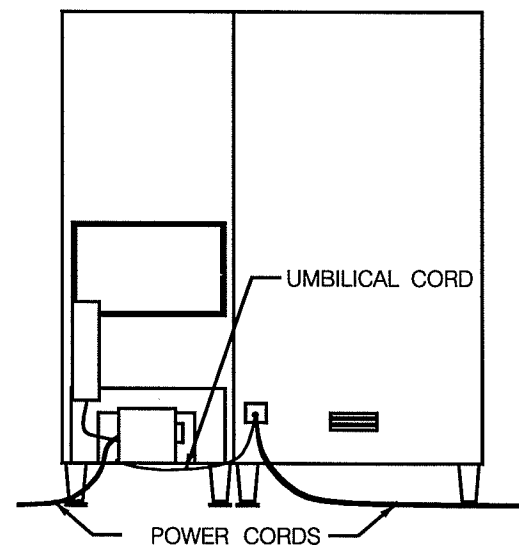

Figure 3. Cord Connections
4. Insert the "umbilical" cord from the Menu Mart II through the hole in the back of the host machine and secure the plate attached to the umbilical cord. See Figure 3.